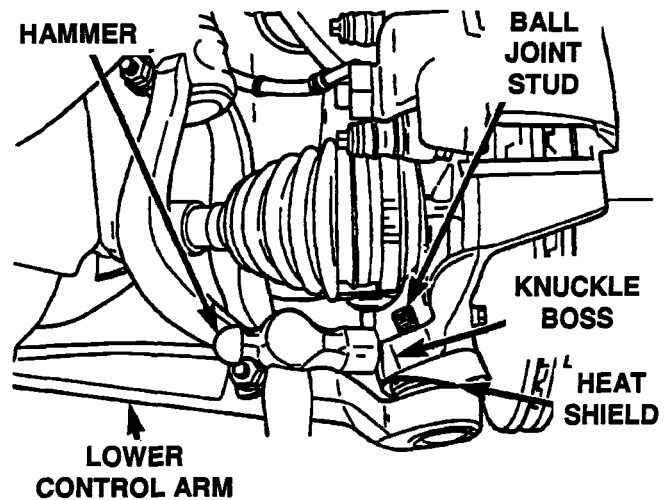

Figure 6
14. Turn the steering knuckle so that the front is facing as far outboard as possible. Using a hammer, strike the boss on the steering knuckle until the knuckle separates from the lower ball joint stud (Figure 6).